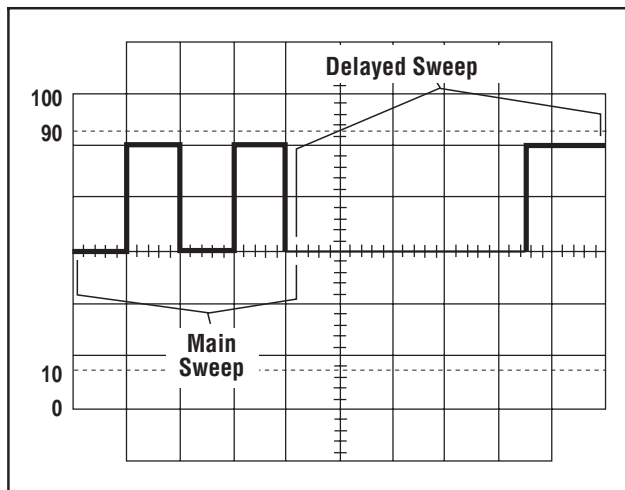

Fig. 5. MIX SWEEP MODE Display.
DELAYED SWEEP OPERATION (Models 2125C & 2160C) (Refer to Fig. 5)
2. Set the **Sweep Mode** switch to the **MIX** position. The display will show the main sweep on the left portion (representing the **MAIN Time Base** control setting) and the delayed sweep on the right portion (representing the **DELAY Time Base** control setting). The **MAIN Time Base** portion of the trace usually will be brighter than the delayed time base portion. Fig. 5 shows a typical display for the **MIX** display mode.